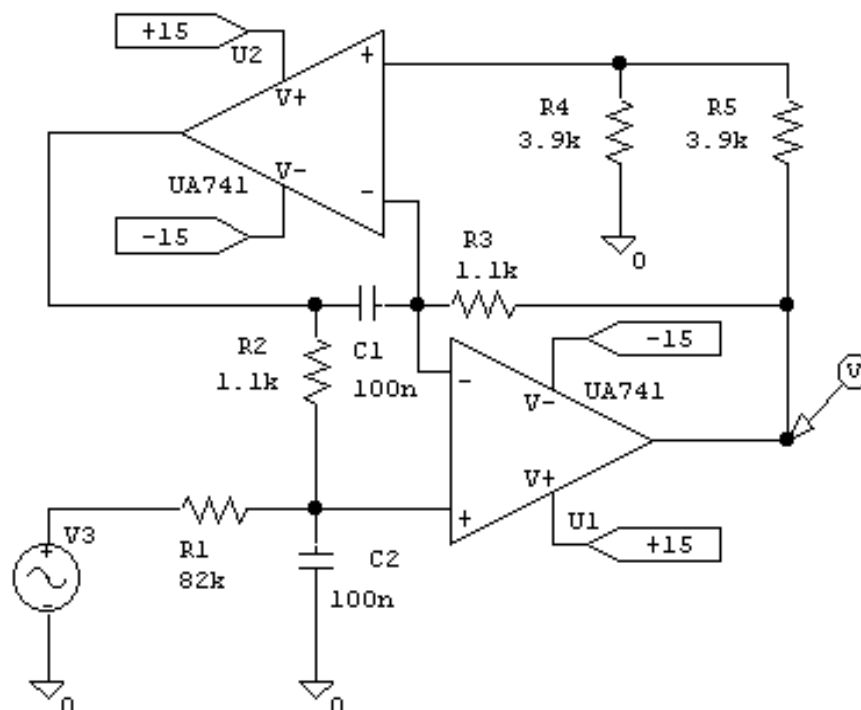

Fig. 10. Schema of the "unknown" filter under study.
1. Draw this circuit in LTspice, identify the type of the filter from Fig. 10, read its parameters from the frequency characteristic.
- "unknown" filter (Fig. 10)